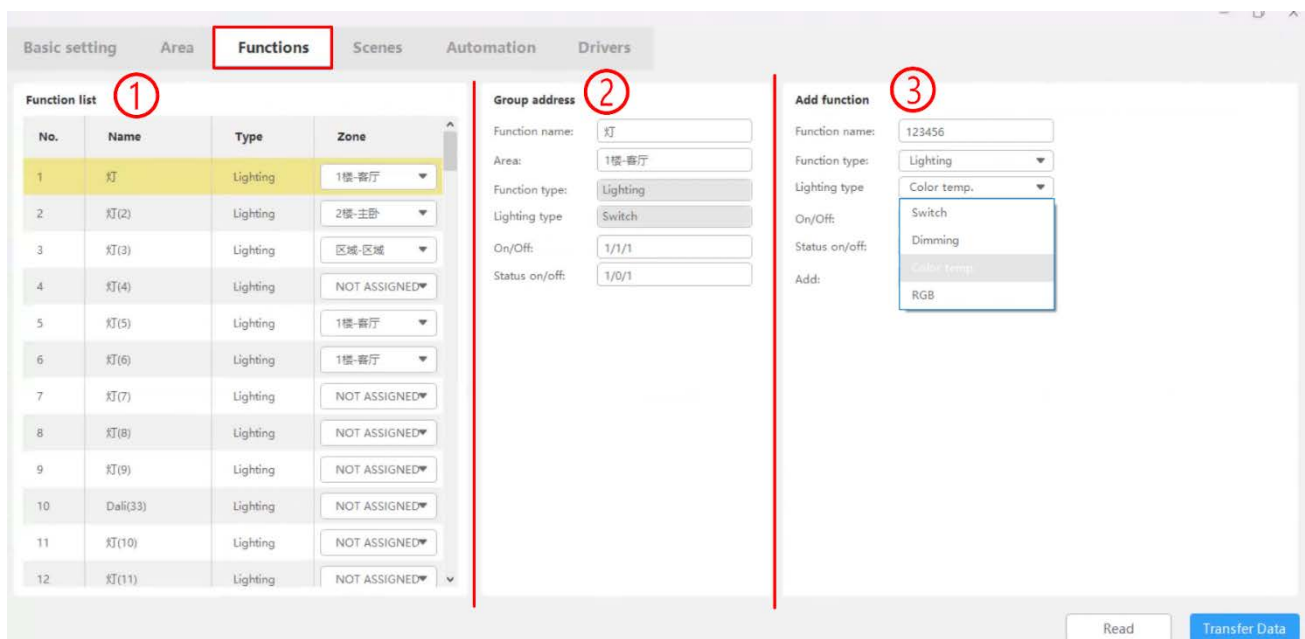

Figure 5-1 Function Setting
As shown in Figure 5-1, click “Functions” in configuration page to check and proceed settings. The detailed steps can be referred as the followings:
① Function List: As shown in Figure 5-1, here it shows the name, type, and zone of all functions.
② Group Address: As shown in Figure 5-1, you can revise the function name; here it also shows the area, the selected function type, and the status of the switch.
③ Add Function: As shown in Figure 5-1, you can revise the function name; you can select the function types, including lighting, shade, thermostat, and geothermal; here it also shows the status of the switch; you can proceed bulk adding as well by adding 1 in the last digit of group address.